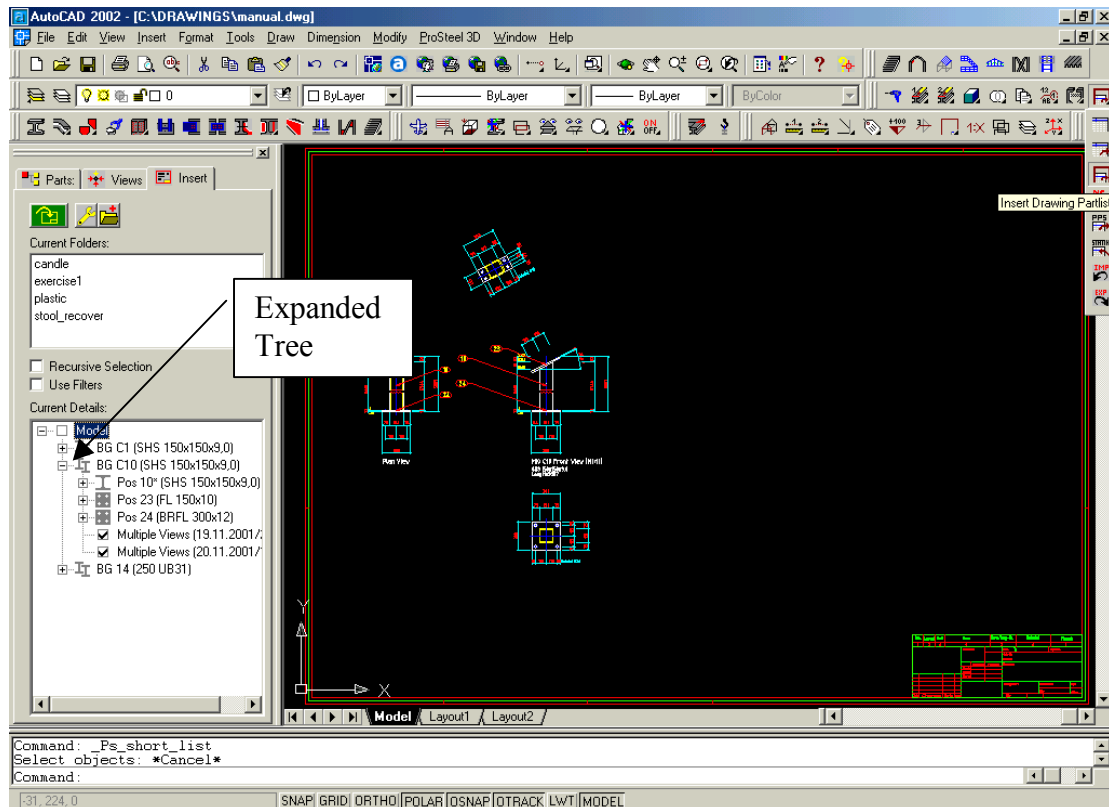
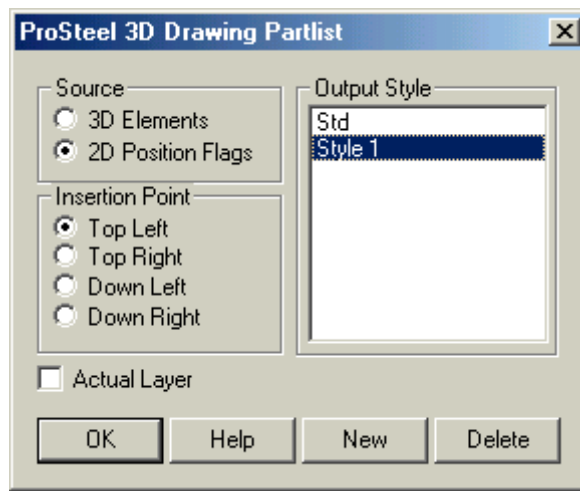
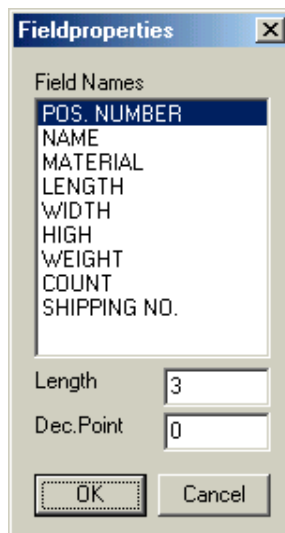

Fig. 25
Fig. 26
Fig. 28
25. If you expand the tree Fig. 25 in the “*Current Detail*” window then you can get to all the individual parts. This also applies to the windows “*Current View*” and “*Current Parts*” on the other TAB’s. So if you where in the “*Current Parts*” window of the first TAB then you could drag a base plate or cleat plate into a different detail style if “*Recursive*” is not ticked.
26. Once all the members have been deposited then it is time to add a material list to the drawing. This can be achieved by selecting the Icon “*Select Drawing Partlist*” Fig. 25 and then a dialog box will appear Fig. 26.
27. If you go to the “New” Button (Fig. 26) you then give it a name and set up the fields that you want by double clicking on the empty line then a box comes up as per Fig. 28